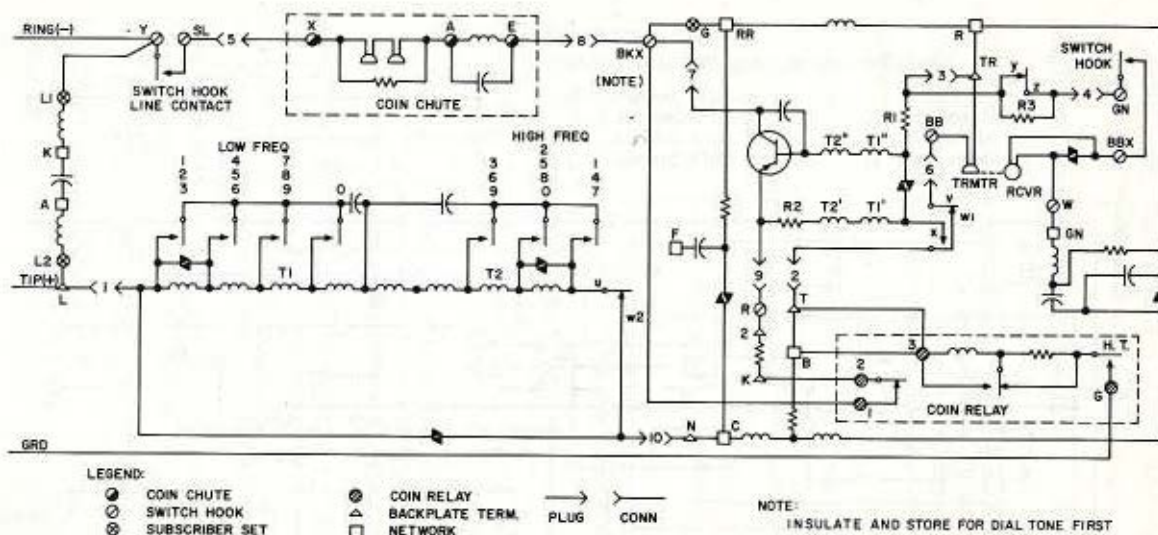

Fig. 14 - 1234G Coin Collector With 685A Subscriber Set
- Fig. 14 — 1234G Coin Collector with 685A Subscriber Set